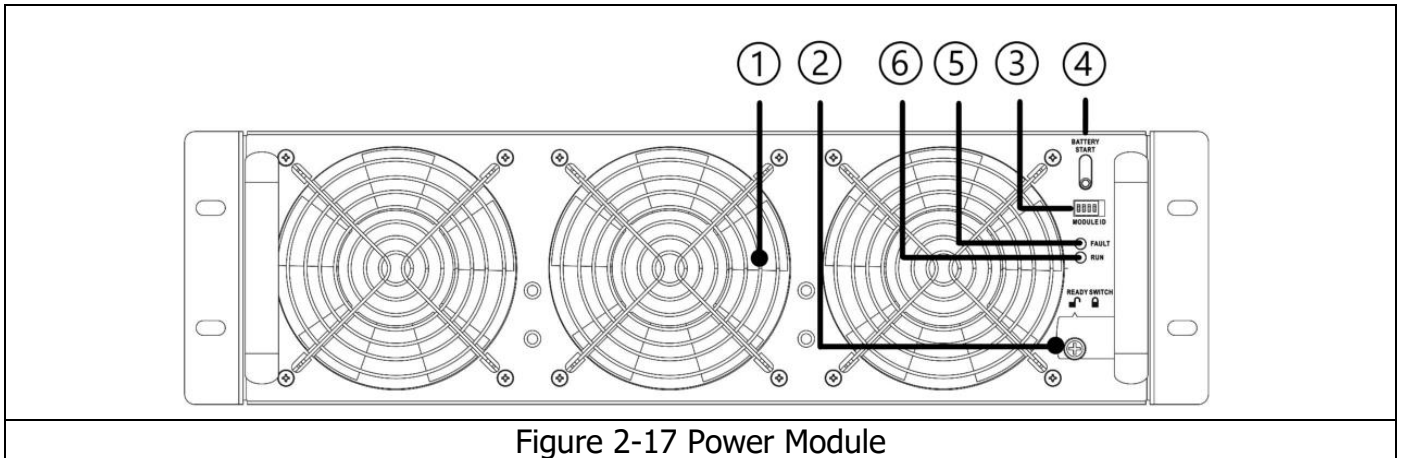

Figure 2-17 Power Module
The Power Module address ID assignment is shown in **Table 2-1**. The DIP switches are mounted on the Power Module front panel, identified as ③ in Fig 2-17.